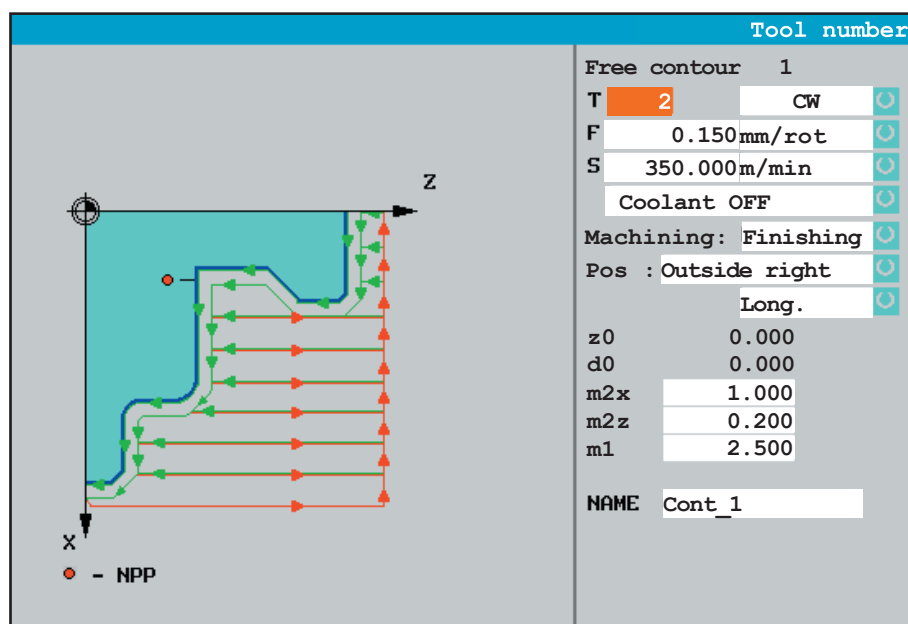

Figure 4-1. Free Contour Cycle Screen
- Fill in cycle data, according to figure 4-1